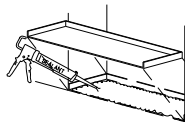

Figure 4
- c. Secure the sillpan to the floor with glue. Position sillpan as necessary to allow for proper installation of frame assembly as shown in figure 4.